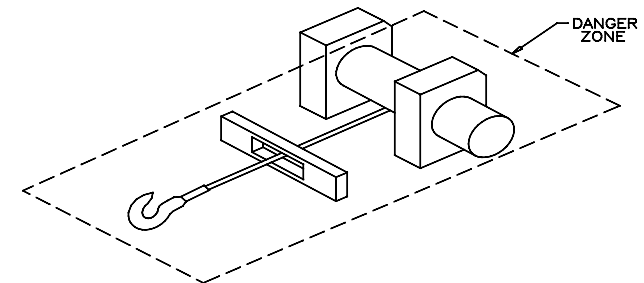

Fig. 1
3. Beware of the danger zone. The danger zone is the area of the rotating wire rope drum, the fairlead (if fitted), the wire rope, the hook, and motor (see Fig. 1). First relieve tension on load then disconnect the control switch before putting hands in or around the danger zone.